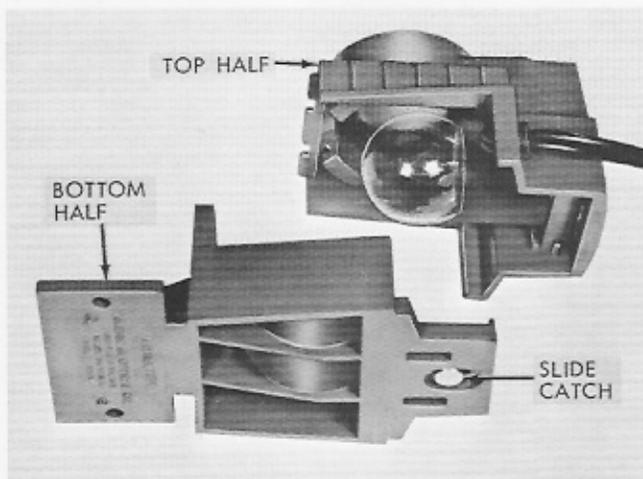

Figure 24. Changing Lamp in "On-Base" Illuminator
- c. Changing Lamp. To change lamp in Cat. No. 1034 or No. 1037 illuminators, refer to figure 24. The top half of the illuminator is removable from the lower half by unlocking the slide catch on the under side of the illuminator. Tilt the microscope on its side for ready access. When this catch is unlocked, the top half lifts off the lower half. Be sure that the top half is located properly before replacing.